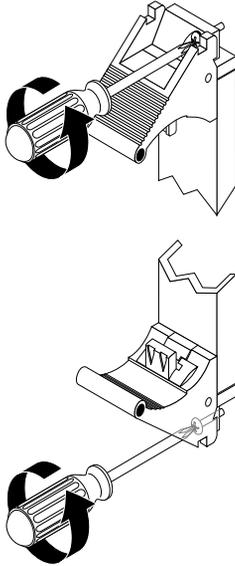

FIGURE 2-12 Loosening the Ejection-Lever Captive Screws
7. Using a No. 2 Phillips screwdriver, loosen the two captive screws inside the board's ejection levers, one on top and one on the bottom (FIGURE 2-12).
3. Using a No. 2 Phillips screwdriver, loosen the two captive screws inside the board or module's ejection levers, one on top and one on the bottom (FIGURE 2-12).